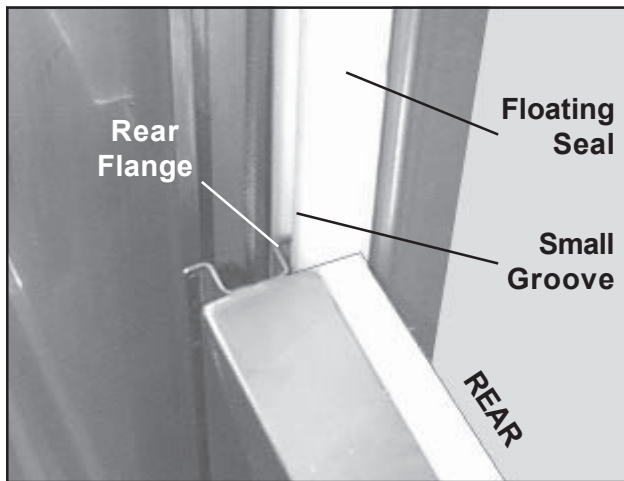

Figure 31. Door Flange in Seal Groove
15. Lift the door and place it into the cubicle so that the rear flanges on both door runners enter the small grooves in the floating seals in both columns (Figure 31). **Note:** The door is not yet secured in place, but merely hangs loosely in the floating seals. It will be secured in place as you install the remaining seals and retainers.